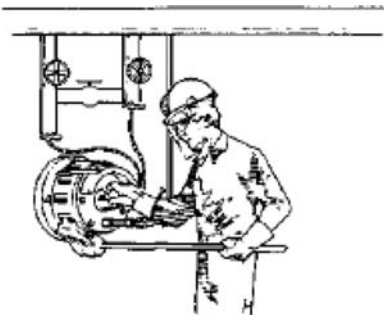

Figure 51 Adjust the primary air on pre-mix gas burners, and be sure the gas is burning steadily before removing the torch.
11. When the fuel ignites, open the primary air registers until the yellow flame turns blue. Do not blow out the flame by opening the registers too much. Keep the lighted torch in place until the flame burns steadily (Figure 51).